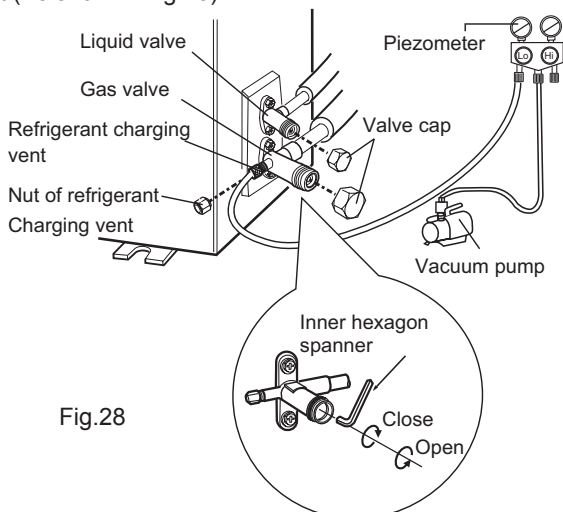

Fig. 28
- (1) Remove the valve caps on the liquid valve and gas valve and the nut of refrigerant charging vent.
- (2) Connect the charging hose of piezometer to the refrigerant charging vent of gas valve and then connect the other charging hose to the vacuum pump.
- (3) Open the piezometer completely and operate for 10-15min to check if the pressure of piezometer remains in -0.1MPa.
- (4) Close the vacuum pump and maintain this status for 1-2min to check if the pressure of piezometer remains in -0.1MPa. If the pressure decreases, there may be leakage.
- (5) Remove the piezometer, open the valve core of liquid valve and gas valve completely with inner hexagon spanner.
- (6) Tighten the screw caps of valves and refrigerant charging vent. (As show in Fig.28)